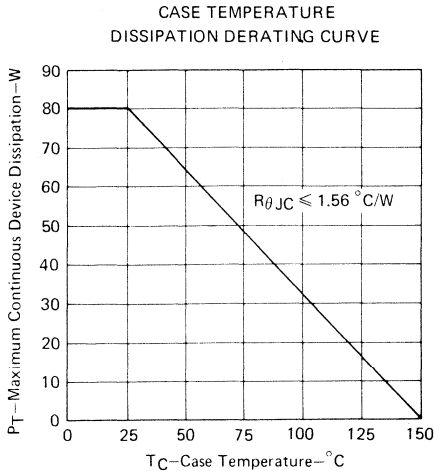

FIGURE 10
5. Derate linearly to 150°C free-air temperature at the rate of 24 mW/°C or refer to Dissipation Derating Curve, Figure 10.